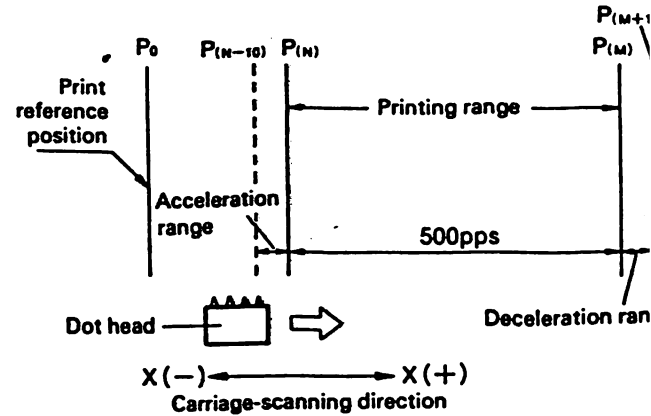

Fig. 1-16. Bit Image Printing Operation
That is, when bit image printing where the head position moves from P(N) to P(M) is to be performed, the carriage motor is accelerated for the 10-step acceleration range from P(N-10) to P(N), the carriage motor is driven 500 pps from P(N) to P(M), thereby executing bit image printing. The 10 steps of the head position from P(M) to P(M+10) is applied to the paper feed as a deceleration range (see Fig. 1-16.):